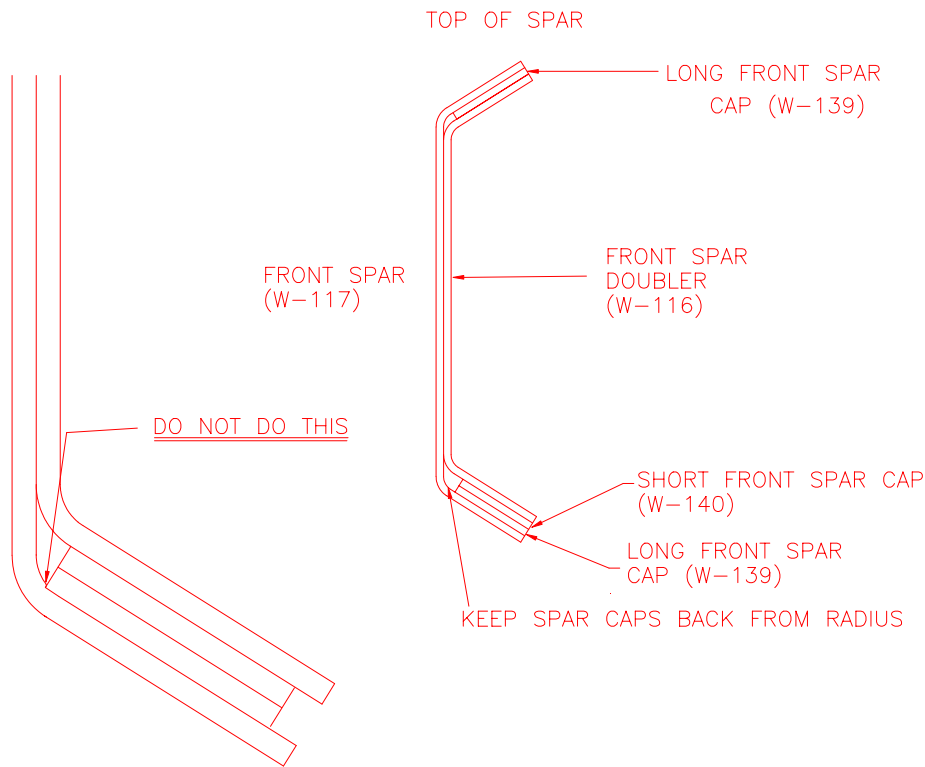

Figure 8.16.3
- 5) At the root end replace the two long front Spar Caps (W-139) and the one short Front Spar Cap (W-140). A small amount of tape at two or three places along the Front Spar assembly helps to hold them in place. It is important that the Spar Caps are not pushed too tightly into place as to cause the edge to touch the radius of the spar. Remember that the Wing is upside down. Figure 8.16.3.